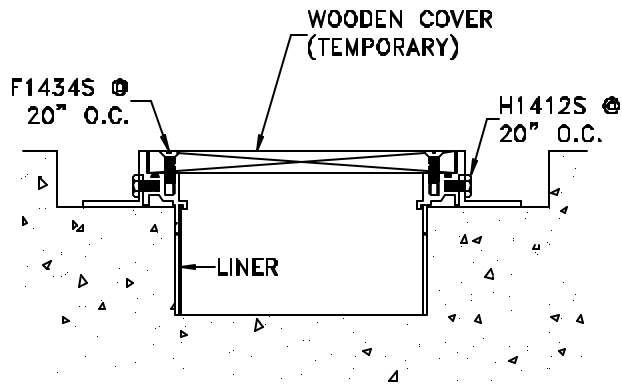

Figure 10
- STEP 17.** Place a temporary wooden cover (plywood is recommended) into the frame, attaching it to the frame (refer to Figure 10). This procedure is recommended to protect the liner from concrete dust as the anchor holes are drilled into the blockout, and to protect the cover plate from grout splatter during the pouring and finishing of the grout.